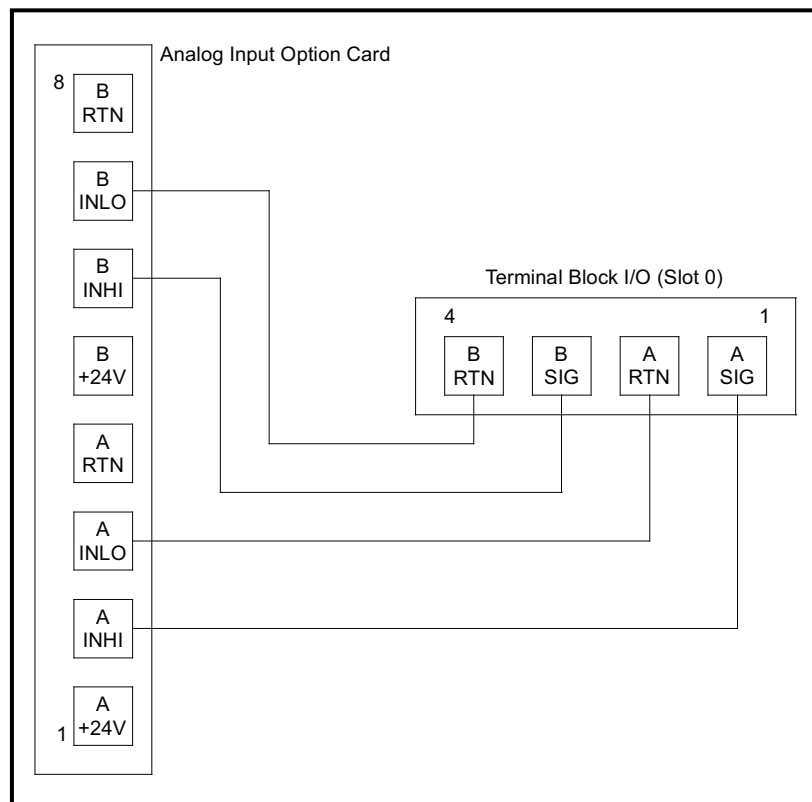

Figure 3: Analog Input Calibration Connections
Connect the **Slot 0** analog output(s) (or an independent calibrated current source) to the analog input(s) on the option card, as shown in Figure 3. Refer to the menu map in Figure 6 on page 15 as a guide.
The procedure for calibrating **Input A** is identical to that for calibrating **Input B**. However, when calibrating **Input B**, be sure a calibrated current source is connected to the appropriate pins on the terminal block. See Figure 3 on the previous page for the correct pin numbers. To calibrate a 0/4-20 mA input card, see the section below.
1. Connect the 4 mA current source to the currently selected analog input, as shown in Figure 3 on page 6.
1. Connect the 20 mA current source to the currently selected analog input, as shown in Figure 3 on page 6.